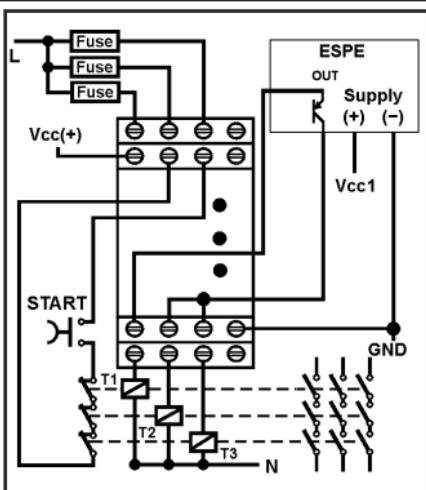

Fig. 9: ESPE 1 uscita PNP a 2 fili /
- *ESPE with one PNP two-wires output (e.g. optocoupled PNP-type)*: connect the emitter output to the S21 terminal and the collector output to the S11 terminal; short-circuit S11 with S22, leaving S12 not connected (fig. 9 max. Safety cat. 2).
In Fig. 9 and 10 are shown the connections of ESPE with 1 two-wires output: one ESPE output wire is connected to S21, while the other is connected to S11 and S11 is short-circuited with S22.